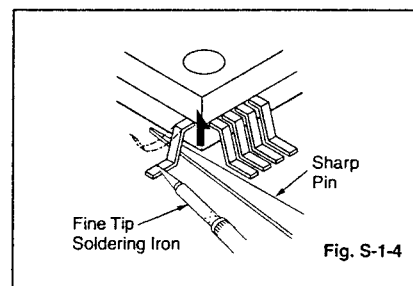

Fig. S-1-4
- Lift each lead of the Flat Pack - IC upward one by one, using a sharp pin or wire to which solder will not adhere (iron wire). When heating the pins, use a fine tip soldering iron or a hot air Desoldering Machine. (Fig. S-1-4)